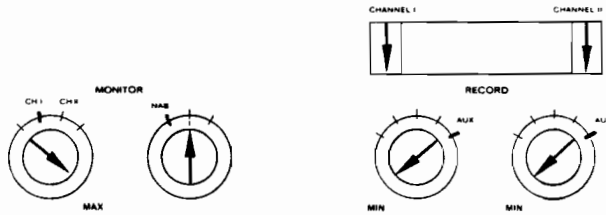

Fig. 6.4–59
– Set controls per fig. 6.4 –59